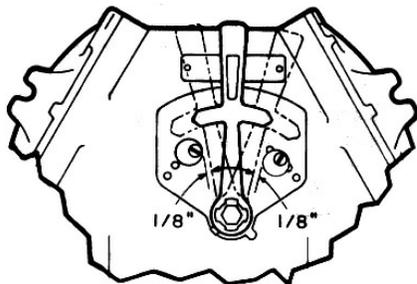

Figure 3
B. Loosen four (4) #10-32 x 3/8" screws that secure the circuit breaker mounting plate to the enclosure. Slide the plate sideways (away from the operating arm) and lift out the mounting plate and circuit breaker.
D. Reinstall mounting plate and circuit breaker into the enclosure so that the circuit breaker load terminals are on the bottom. Tighten the four (4) mounting plate screws to provide a good ground connection between the mounting plate and the enclosure.
F. Check the operating handle travel by readjusting the over-travel stops on the outside of the enclosure so that there is a maximum of 1/8" clearance between the stops and the operating handle, after movement in either direction (See Figure 3).